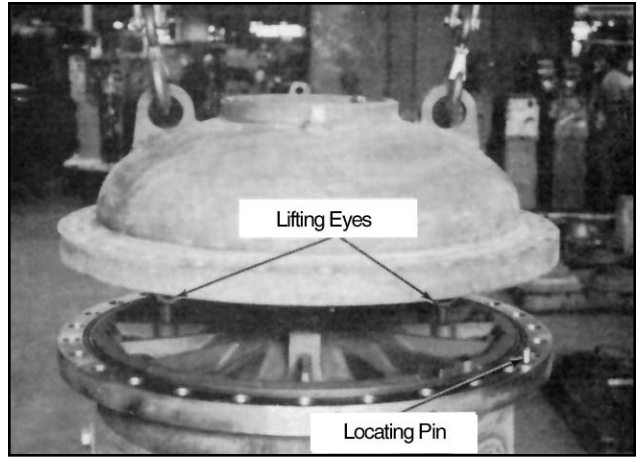

Figure 6
5. Using a suitable lifting device, Figure 6, remove the cover from the housing.